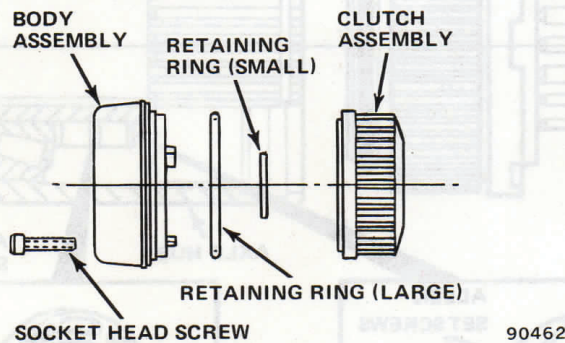

Fig. 7-5 M246 Hub Body and Clutch Assemblies
(4) Remove socket head screws that attach clutch assembly to body assembly and separate clutch from body (fig. 7-5).
(5) Install clutch assembly on axle shaft.
(6) Install large retaining ring in axle hub and install small retaining ring on axle shaft (fig. 7-5).
(7) Position body assembly on clutch assembly. Align screw holes in clutch and body assemblies and install socket head screws. Tighten screws to 30 inch-pounds (3 N•m) torque.
(8) Raise vehicle front end.